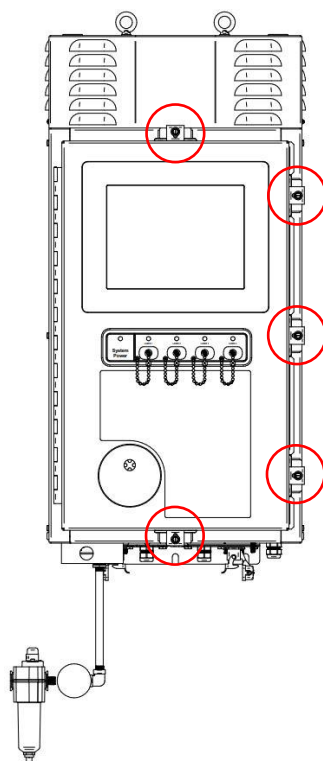

Figure 11. Door clamps
1. Tighten the door clamps in five places with a flat blade screwdriver or $\frac{3}{8}$ " nut driver to ensure a proper seal. See Figure 11.